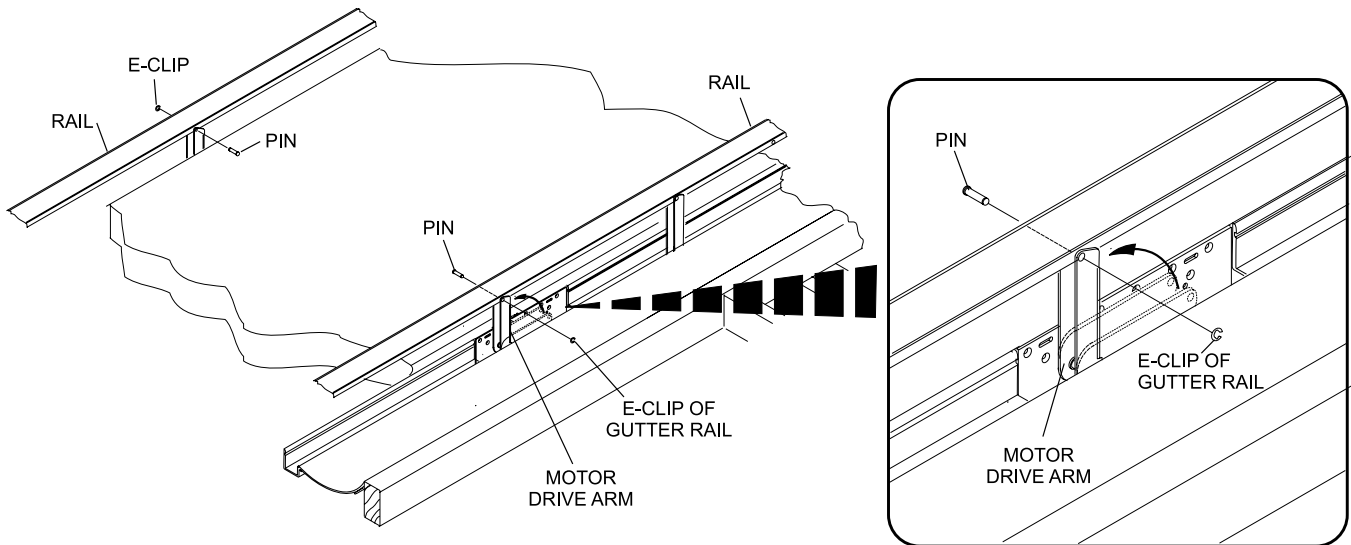

Figure 2
2. Disconnect the motor drive arm from the rail by removing the E-clip and pin. Refer to *Figure 2*.